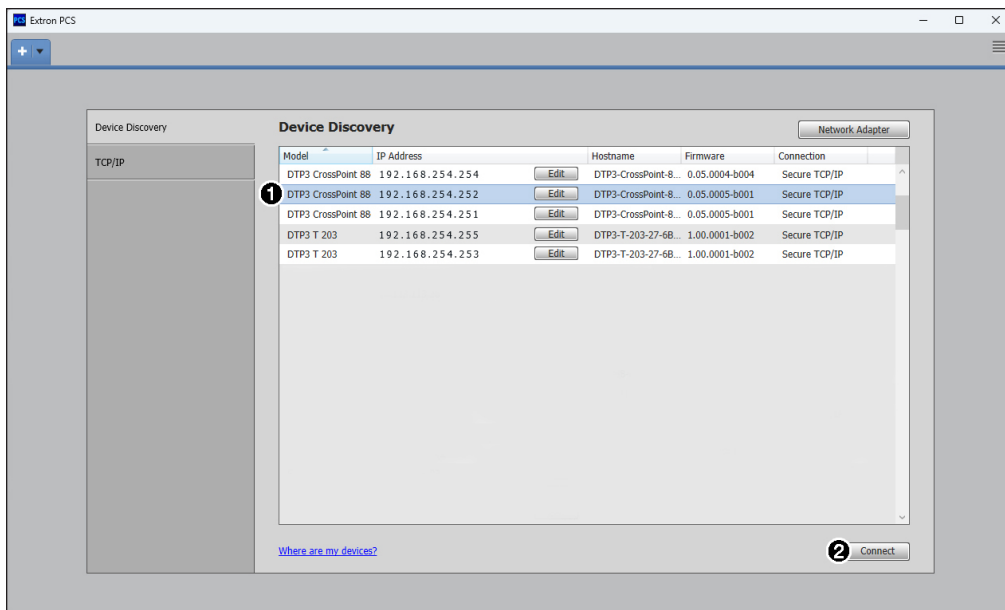

Figure 24. Device Discovery Screen
The Extron Product Configuration Software window opens with the Device Discovery panel open. Connect to the switcher using the Device Discovery panel or the TCP/IP panel (see figure 24).
The Extron PCS window opens to the Device Discovery screen (see figure 24 on page 79).
1. Click on the **Edit** button (see figure 24). The Communication Settings box opens.